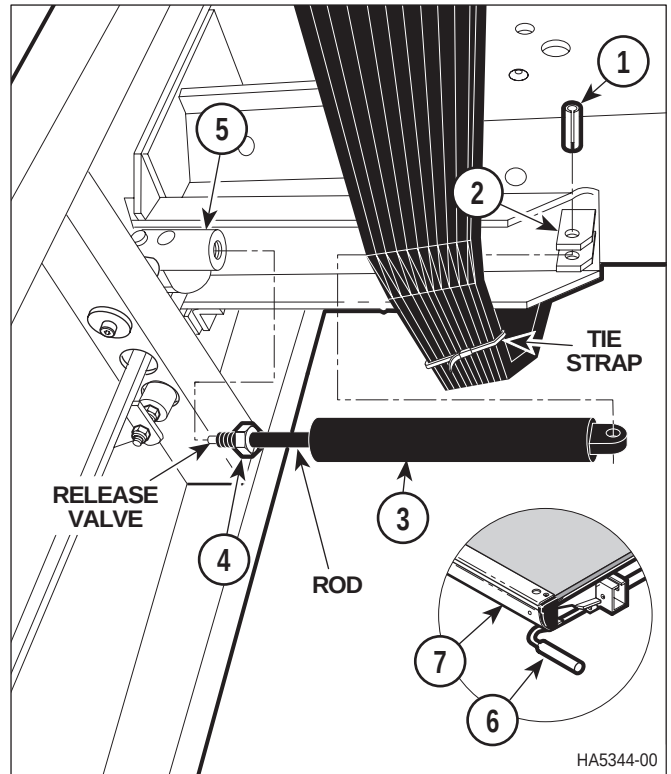

Figure 4-21. Trendelenburg Gas Spring Removal / Installation
- (2) Lower *and* raise bellows for access (Refer to para 4.3).
- (3) Depress a caster control pedal to the "brake" position.
- (4) Lay the stretcher onto its side.
- (5) Drive spiral pin (1, Figure 4-21) out of pivot plate (2) and separate bottom of Trendelenburg gas spring (3) from pivot plate.
- (6) Loosen jam nut (4).